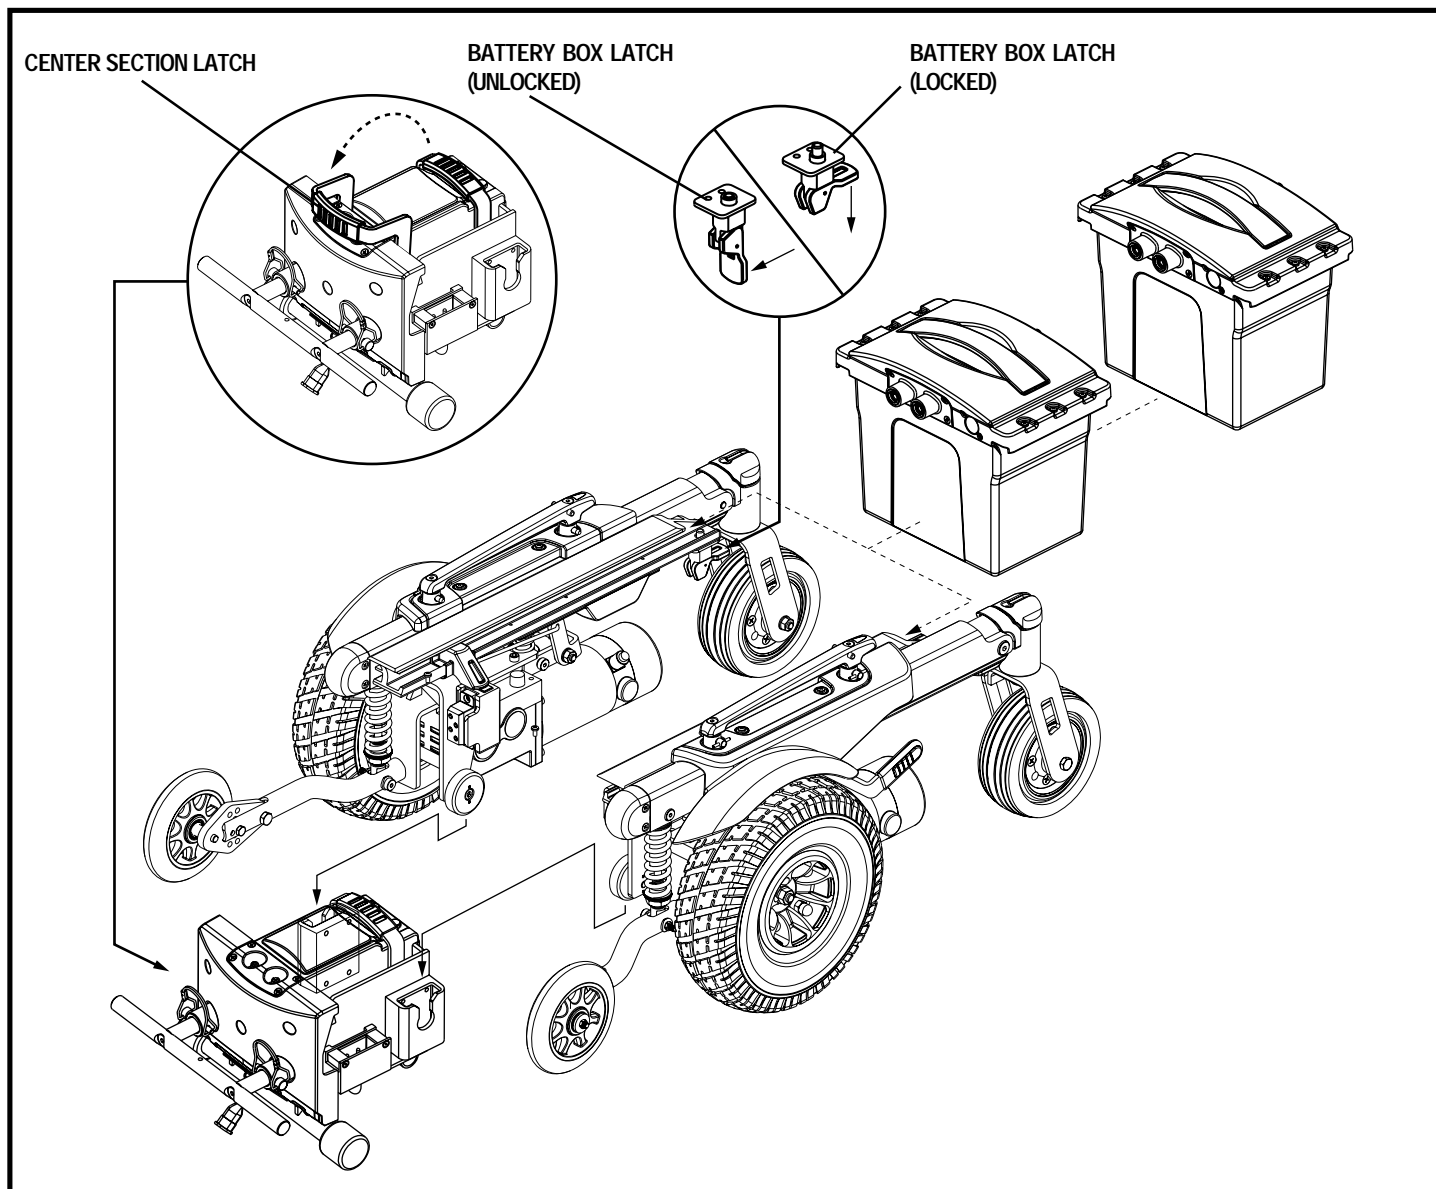

Figure 14. Quantum 1107 Battery Box Removal and Frame Separation
5. Flip down the battery box latches on each side of the power base. See figure 14.
7. Flip up the center section latch. See figure 14.